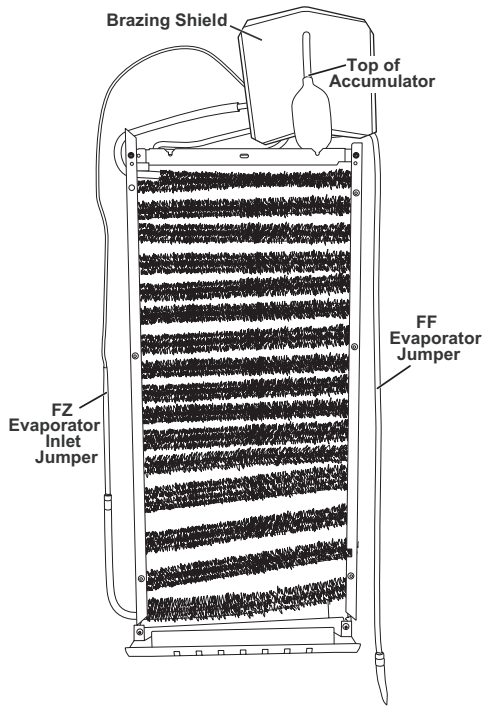

Fig. 1
9. Use torch to heat the joint of the accumulator top, separate the suction line and accumulator top and clean the suction line surface (Fig. 1 and 2).
10. Using the tubing cutter, cut fresh food evaporator jumper (right side) tube about 2 inches from the joint outlet end of the fresh food evaporator. Score and break the capillary tube about 2 inches from the end of freezer evaporator inlet jumper (left side) (Fig. 1 and 2).